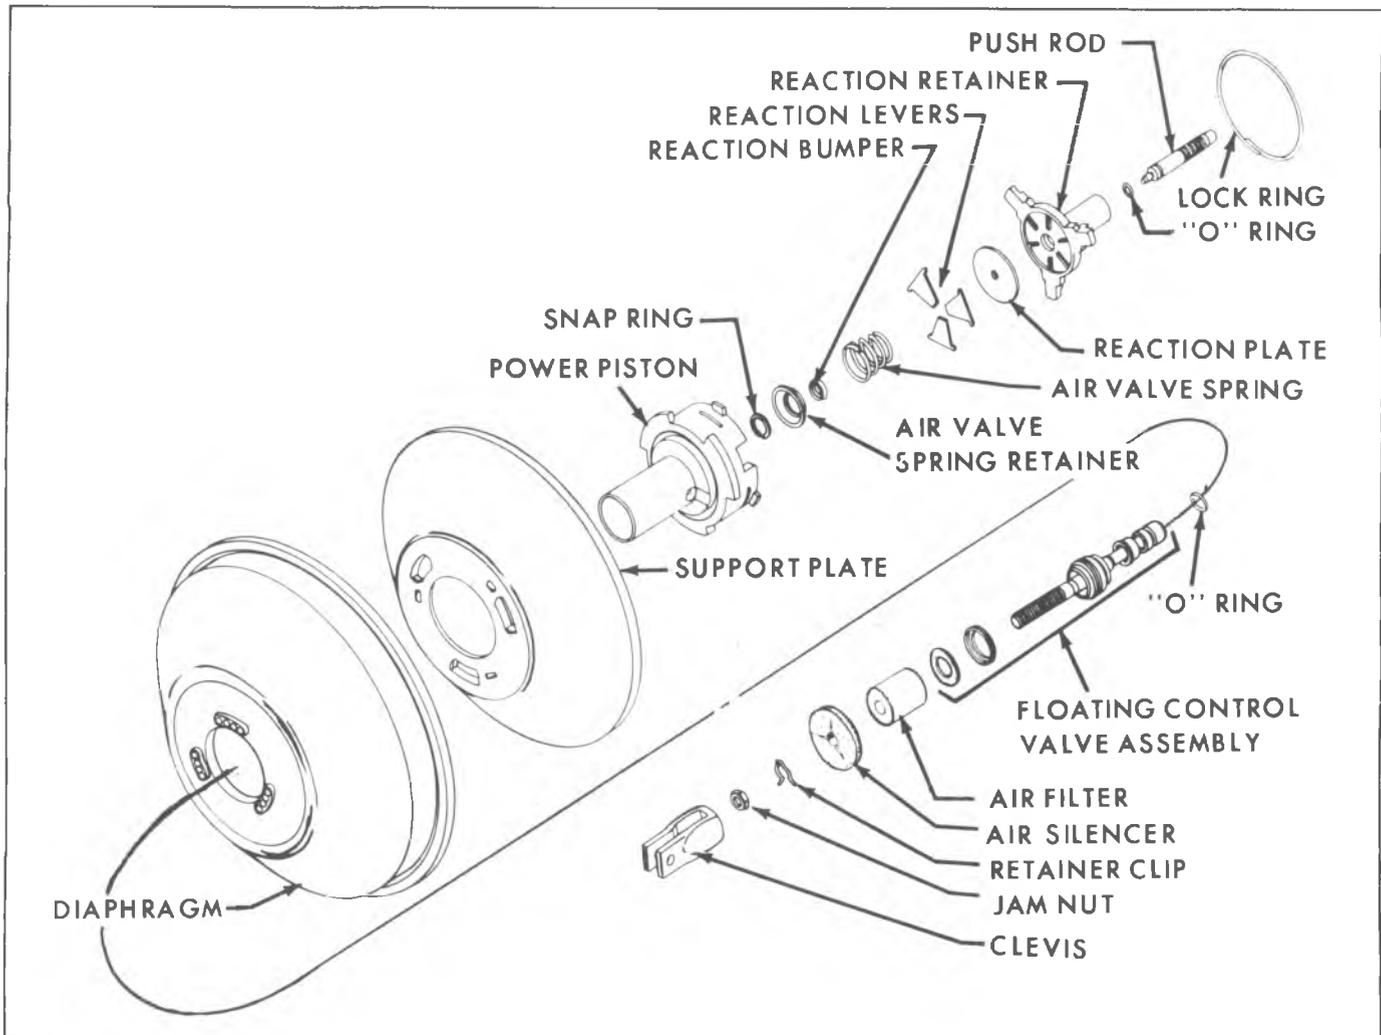

Fig. 5-3C--Power Piston Assembly - Exploded View
**Power Piston Assembly Group (Fig. 5-3C)**